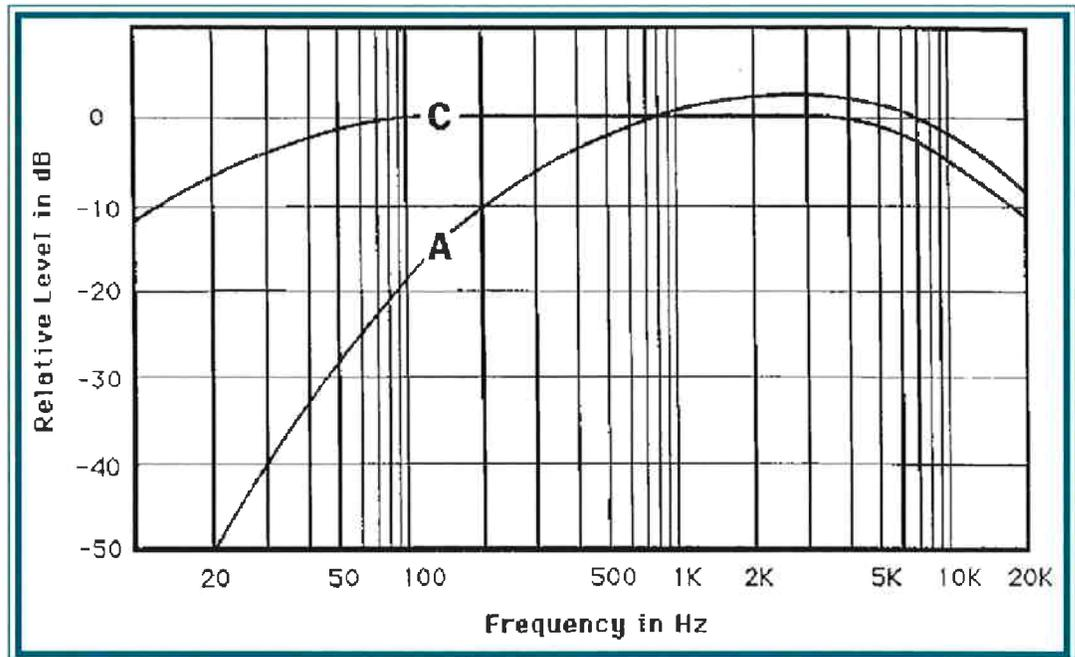

FIGURE 6.1 A & C METER WEIGHTING COMPARISON
3. If you have either a spectrum analyzer or a sound pressure level (SPL) meter, you should measure and document the in room response of your L & R loudspeakers, running full-range, without subwoofer contribution. This will give you a baseline measurement. While you can measure each channel individually, it is more expedient to measure both simultaneously using the (Mono) test signals. Measurement locations for the microphone should include one at ear height at the main listening location. Additional locations could include 2 meters, both left and right, of the primary listening position, as well as halfway between the primary position and the back wall. These readings must be averaged together. Expect measurements taken close to walls to show substantially more LF energy than those taken near the center of the room. Use the dB-C weighting or better yet, if available, the "Flat"/ non-weighted scale of your instrument. See figure 6.1 which compares dB-A & dB-C weighting. The more commonly used dB-A scale, on the other hand, is intended to correspond to the ear's "frequency response" at low SPL, and should never be used to calibrate low frequency levels. Please note that, even at 50 Hz, the dB-C scale is still down approximately 2 dB relative to 800 Hz.' Don't be disappointed, therefore, if your dB-C scale measurements show a gradual roll off in the bass. If your measurements do follow the profiled roll off; it indicates a very linear (even an impossibly linear) speakers/room response. Use track 2, (pink noise), for spectrum analysis measurements. For measurements using a SPL meter, use tracks 6 through 16, (1/3 octave BLN beginning at 200 Hz and going down to 20 Hz). Document your measured results.